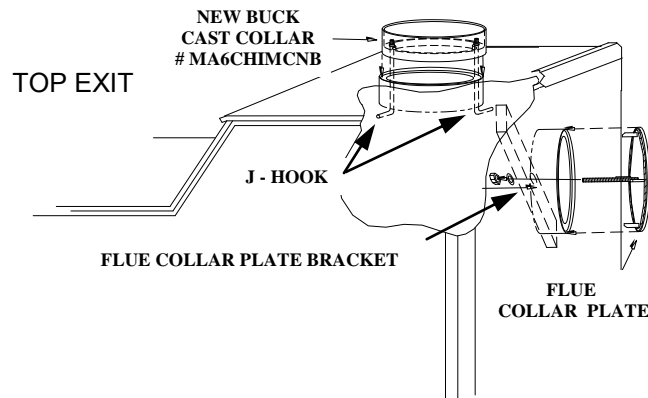

Figure 2.
7. Next fasten New Buck's Cast Collar part number MA6CHIMCNB to the flue exit of stove to be used, using the J hook's provided. Position collar with gasket towards the unit, tighten the J hook's **Firmly**. (See Figure 2).
8. Fasten New Buck's Flue Collar Plate to the exit not used for burning stove. Firmly secure the Flue Collar Plate Bracket with the nut and washer provided. (See Figure 2).